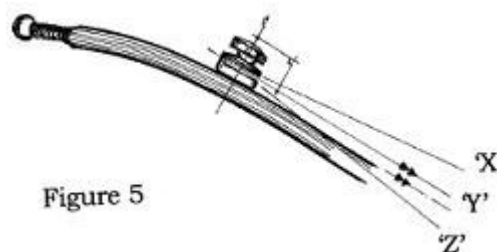
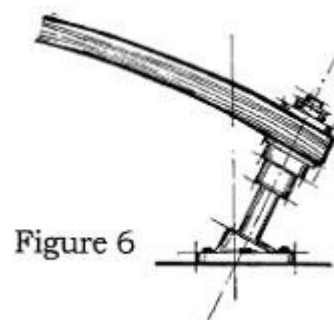

Figure 5
Figure 6
2. It may be that the rope is feeding into the Pulley at an angle (see 'X' in **Figure 5**) and not at right angles to the axis of the TILLERMATE ('Y') and is rubbing on the Pulley. In which case readjust your angles to stop this.
Another problem will be if you have a boat with the rudder shaft at an angle as in **Figure 6**. This means that the tiller will make a downward curve when turned from the straight ahead position and you may need to experiment with having the rope at position 'Z' in Figure 5 when in the straight ahead position or use a **Leading Block** (Part no 528LB) which cures this problem.